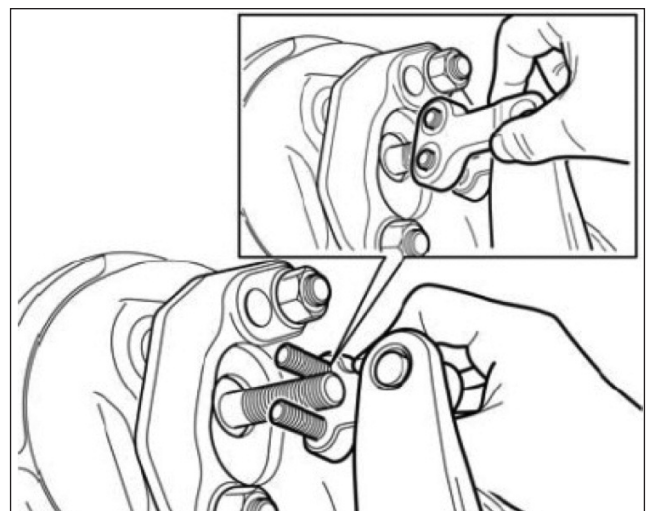

Fig. 3.13
13. If needed, adjust the clevis position on the air chamber pushrod but do not close the new screw yet. - Fig. 3.13